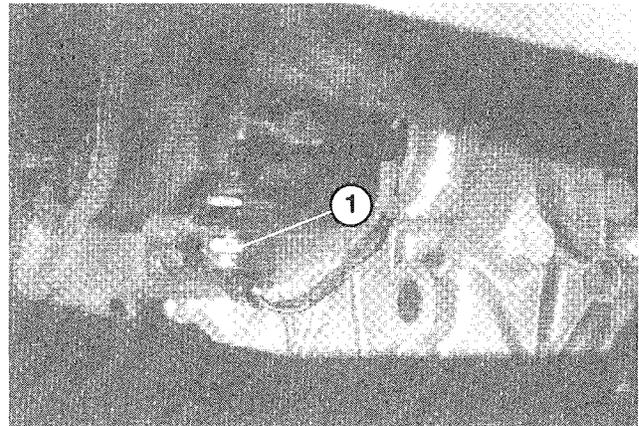

Figure 51
7. Recheck clutch safety switch adjustment (Fig. 51). Engine must not crank unless clutch pedal is $1.25" \pm .12"$ from floor. If an adjustment is required, loosen switch jam nuts and adjust up or down.